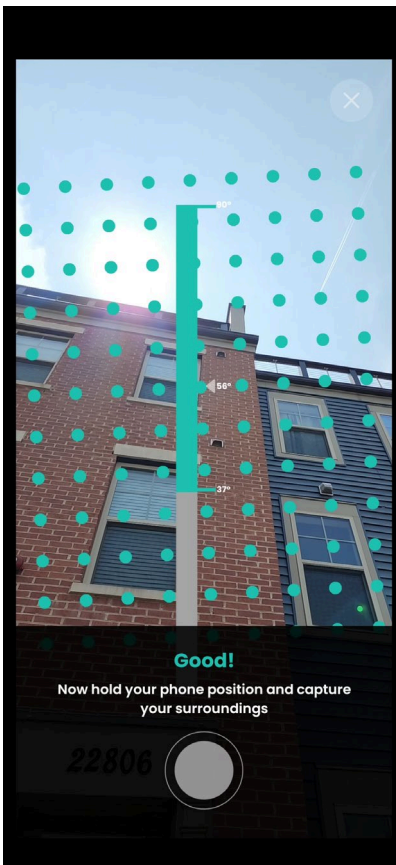

Figure 83: Site survey capture button
6. Once your phone is held at the correct angle, a circular grey capture button will appear at the bottom of the screen, as shown in Figure 83. Tap the button to begin capturing data.